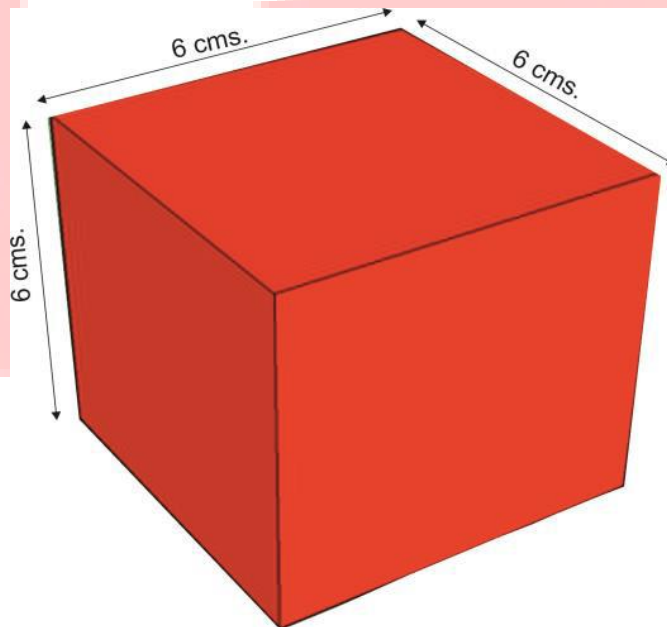

Figure 5: Red Supply
- Team prepares 2 quantities of Supplies each of Red (R), Green (G), and Blue (B) and 2 quantities of Trash, Yellow (Y) by covering the Thermocol blocks with respective coloured chart paper. (You can prepare additional/extra blocks as required considering that blocks may get damaged during practice) A Red (R) Supply is shown as an example in Figure 5.